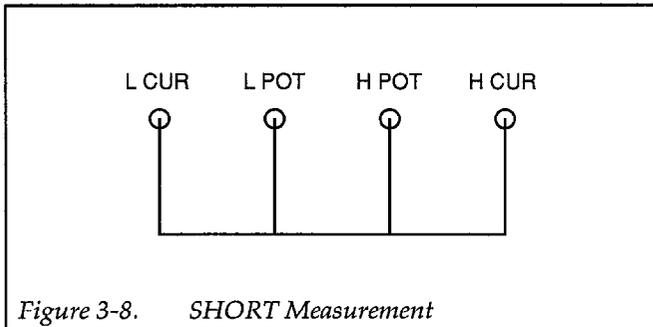

Figure 3-8. SHORT Measurement
1. Short the measurement terminals as shown in Figure 3-8.
For the SHORT correction, make sure L CUR, L POT, H POT and H CUR are all connected together as shown in Figure 3-8.